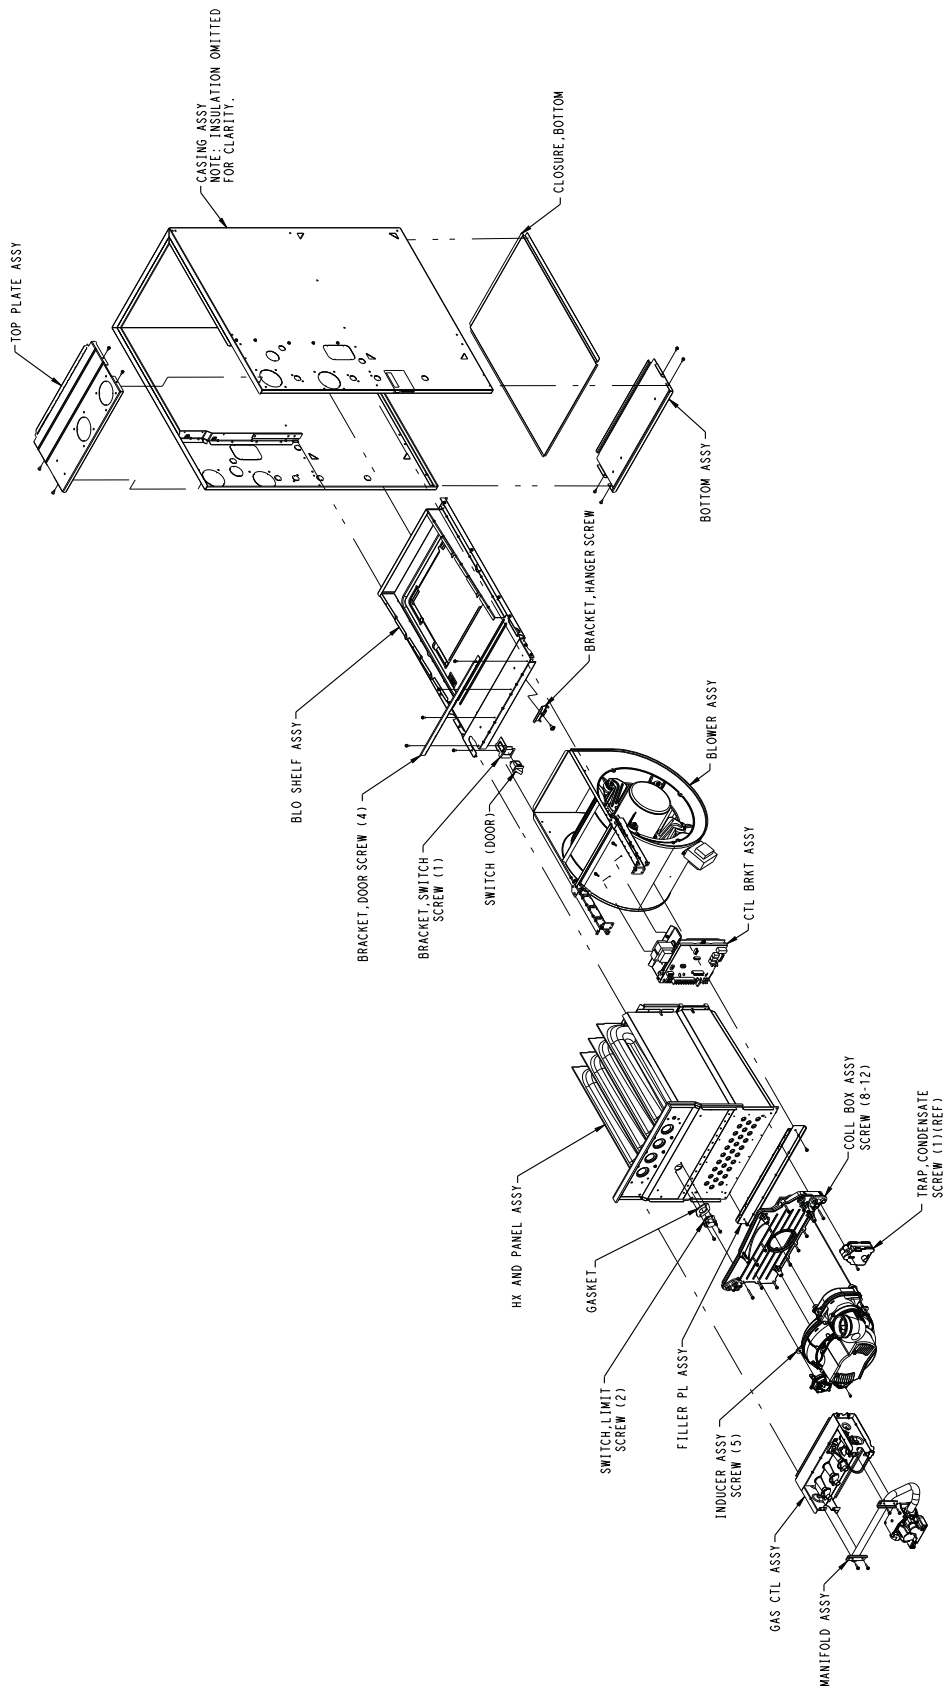

Fig. 6 - Final Assembly for Cell Panel and HX Assembly
1. Align the trap with the drain outlet on the collector box. See Fig. 6.